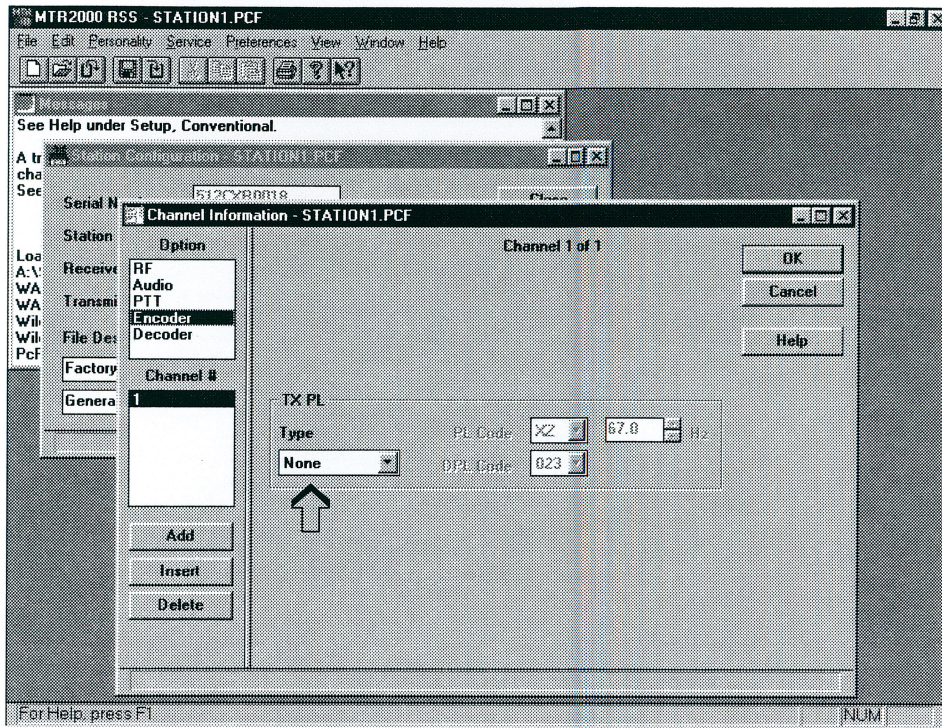
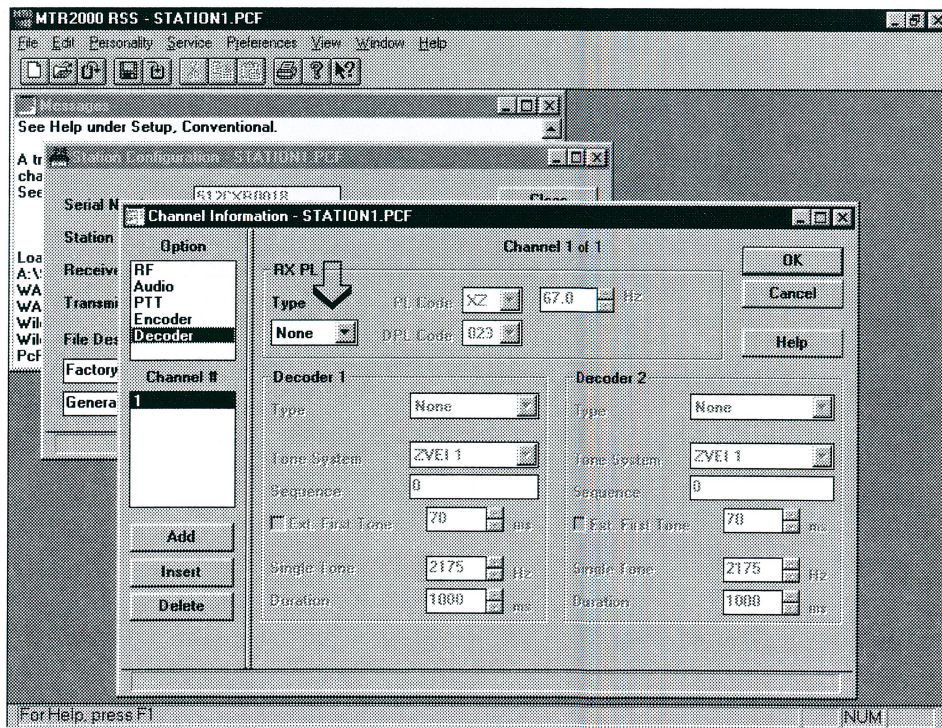

Fig. 7
Fig. 8
11. The next item to be selected from the **Option** window is **Encoder** and **Decoder**. These two should both have **None** in the **Type** window as indicated by the arrows in Fig. 7 and Fig. 8. Click **OK** to close the **Channel Information** window.